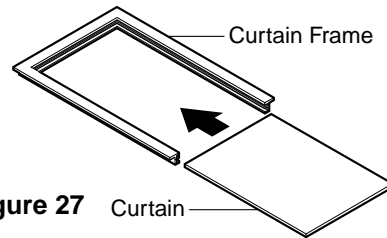

Figure 27 Curtain
8. Slide curtain into curtain frame. Slide curtain frame assembly into side guides of the air conditioner cabinet. Make sure curtain is firmly enclosed on all sides by the frame. (See Figure 27)